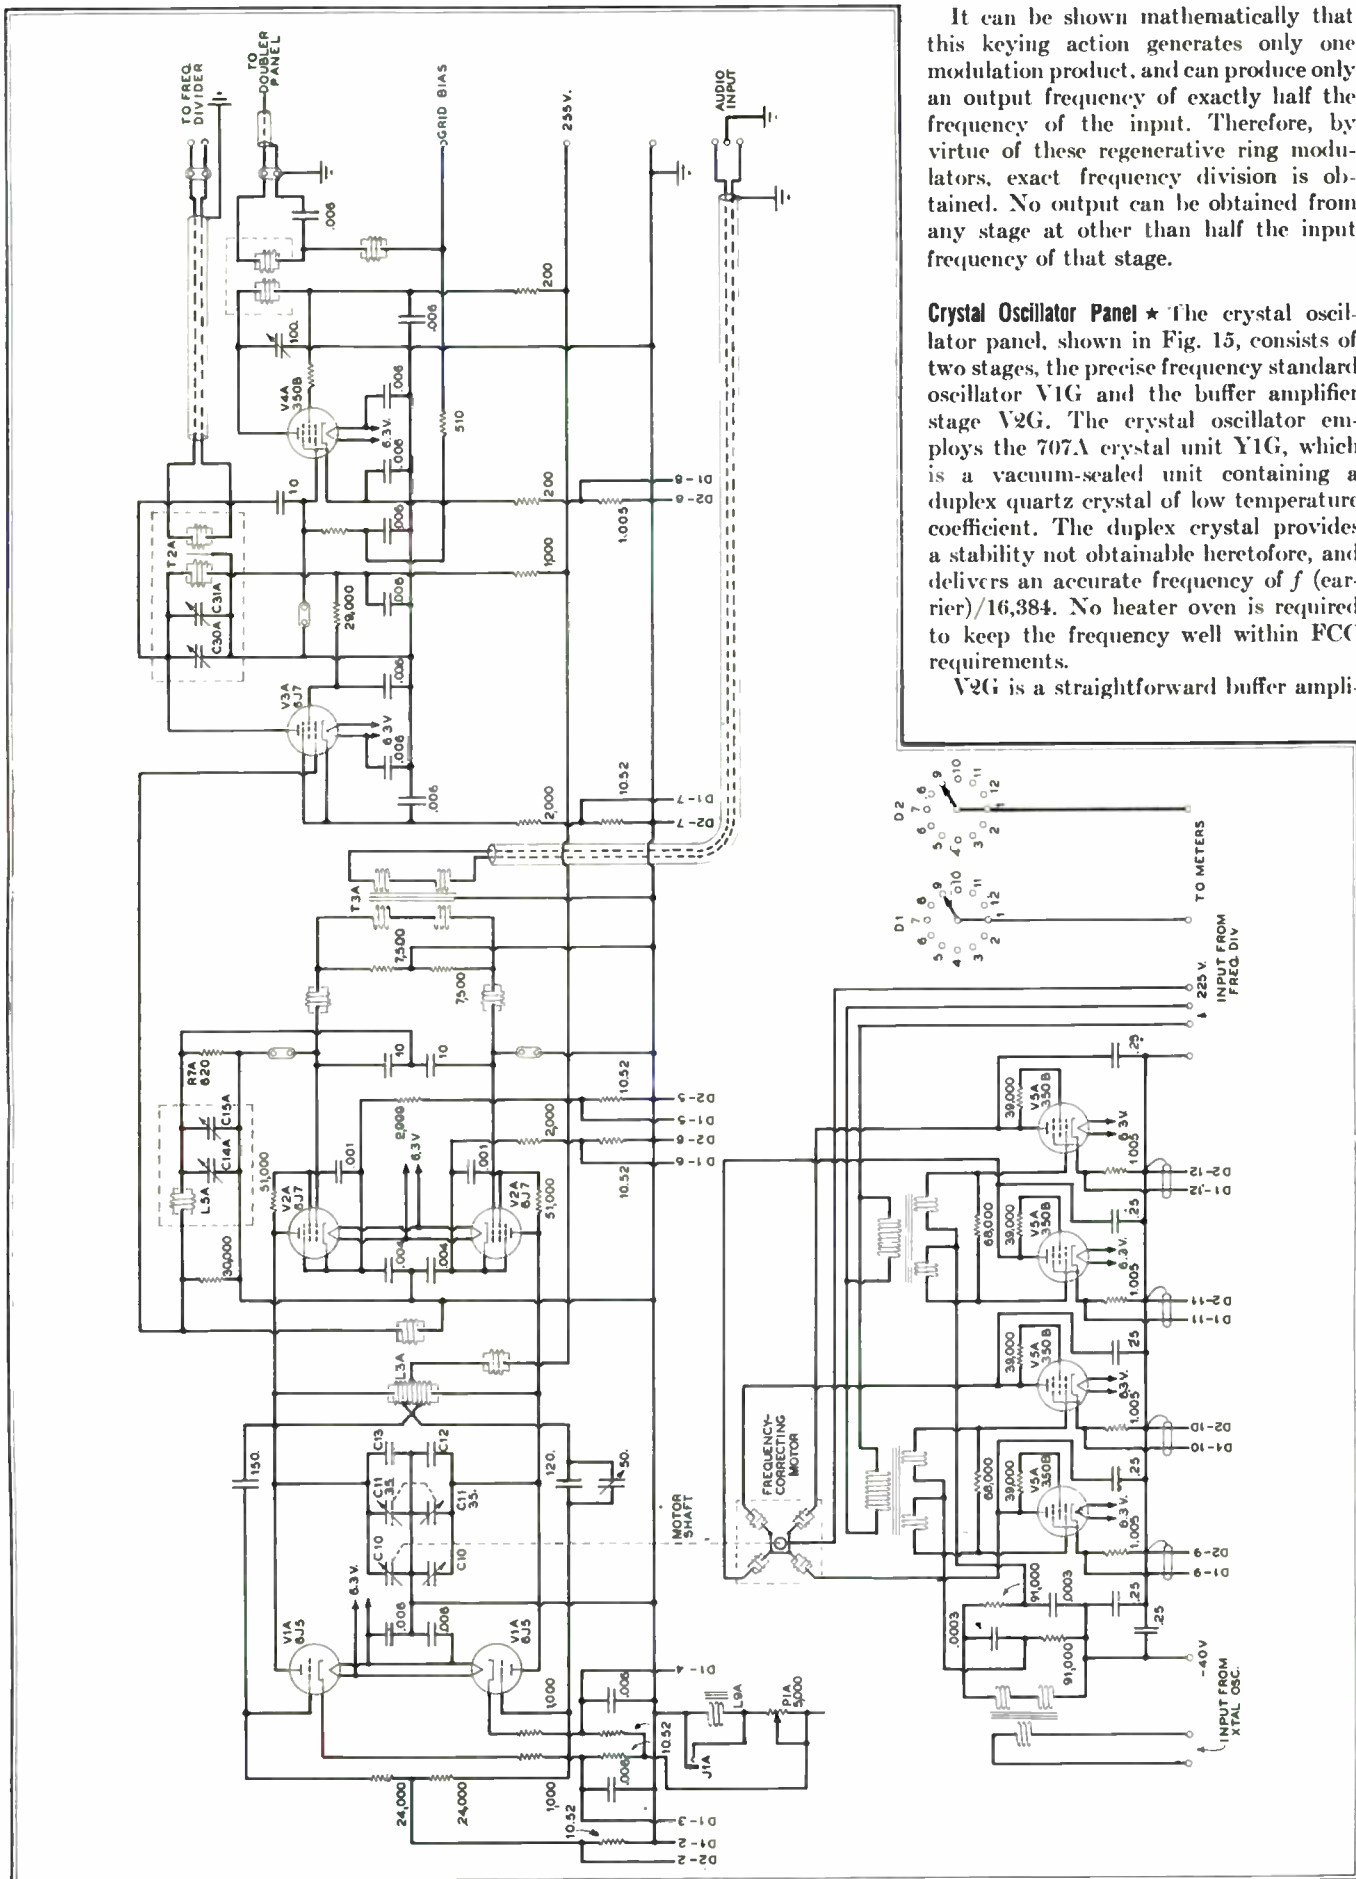

FIG. 11. DETAILED SCHEMATIC DIAGRAM OF THE OSCILLATOR-MODULATOR PANEL, ALSO SHOWING CENTER FREQUENCY CONTROL
In Figs. 10 and 11, diagrams for the $n = 2$ mode similar to that of Fig. 9 for the π mode are shown. Fig. 10 is for electronic interaction with a standing wave of periodicity $n = 2$, and Fig. 11 for a traveling wave of the same periodicity. Again, as in the case of the π mode, the values of k for favorable electronic interaction are given by equation (10).
FIG. 11. A plot similar to those of Figs. 9 and 10 for the rotating wave of anode potential of periodicity $n = 2$ in a magnetron having eight resonators as indicated by equation (13) in the text. The field at the instant $t + \frac{1}{8} T$ is plotted as a dashed line to show that the traveling wave does not preserve its shape at all instants. Whereas the wave travels in one direction with the angular velocity $2\pi f/2$, electrons which travel with velocities $2\pi f/2, 2\pi f/10, 2\pi f/18, \dots$ in the same direction or with velocities $2\pi f/6, 2\pi f/14, \dots$ in the opposite direction interact favorably with the RF field. Directions of electron motion must now be distinguished. Electrons whose velocity is opposed to that of the rotating field are said to be driving a "reverse" mode.
negative integral values of p do not each give the same sequence of values for $|k|$, as was the case for the π mode. For $p \geq 0$, $|k| = 2, 10, 18, \dots$; and for $p < 0$, $|k| = 6, 14, 22, \dots$. For the standing potential wave, Fig. 10, each of these values of $|k|$ does specify the velocity of possible electron motion in either direction for favorable interaction with the field. For the traveling potential wave, Fig. 11, on the other hand, only the positive values of k ($p \geq 0$) correspond to electron motion in the same direction as the traveling wave, the negative values of k ($p < 0$) corresponding to electron motion in the direction opposite to the traveling wave. The sign of k has significance. If the electrons are moving with velocities specified by equation (11), with the negative values of k from equation (10), and are thus moving counter to the traveling RF field wave, the electrons are said to be driving a reverse mode.
surface is $2\pi r_a/k$ corresponding to an angular velocity of $2\pi f/k$. Thus, as seen in Fig. 11 for the instant $t + T/8$, the change of shape of the total traveling wave indicates that the components of which it is composed travel with different velocities. In Fig. 23 will be shown instantaneous RF interaction field patterns for the fundamental components ($p = 0$) of the $n = 1, 2, 3$, and 4 modes of an anode block having eight resonators.
Oscillator-Modulator ★ Fig. 11 is the detailed schematic of the oscillator-modulator panel. The source of the radio frequency oscillation is the balanced push-pull oscillator circuit V1A, primary of L3A, and C10, 11, 12, and 13A, which operate at a mean frequency f (carrier)/16. Some of the energy of this circuit is taken by the secondary of L3A to a 90° network, L5A, C14A, C15A, and R7A. The output voltage of the 90° network, constant in amplitude, is supplied in parallel to the grids of the reactance control tubes V2A, the plate circuit of which is common with that of the oscillator tubes. Negative feedback is introduced in the cathode circuit of V1A by the potentiometer P1A and inductance L9A. This negative feedback stabilizes the amplitude of the output and also provides an easy method for adjusting the 90° phase network accurately. The adjustment is made by connecting headphones to jack J1A and adjusting C14A and C15A for zero tone. Any audio tone present at this point represents amplitude variations which can cause FM distortion. Therefore, this easy adjustment eliminates any distortion that might be possible from inaccurate phasing.